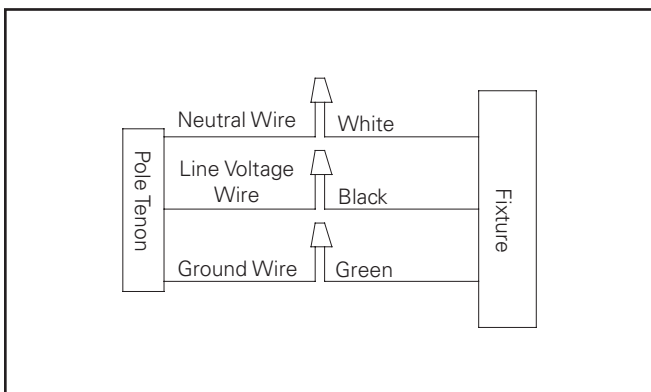

Figure 9.
12. Connect supply wires to appropriate luminaire leads (Figure 9).